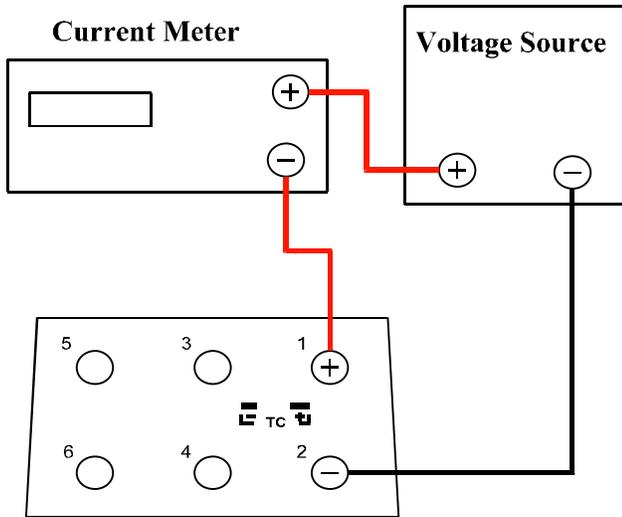

FIGURE 3
3. 2 Wire Configuration: Connect terminals 1 and 2 from the 830 in series with a Voltage Source (Set to 12V) and a Current Meter (See figure 3).